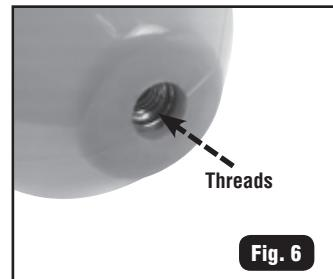

Fig. 6
5. Slide the inner cylinder all the way into the main housing until the contact screw threads are visible through the top hole of the housing (Fig. 6).